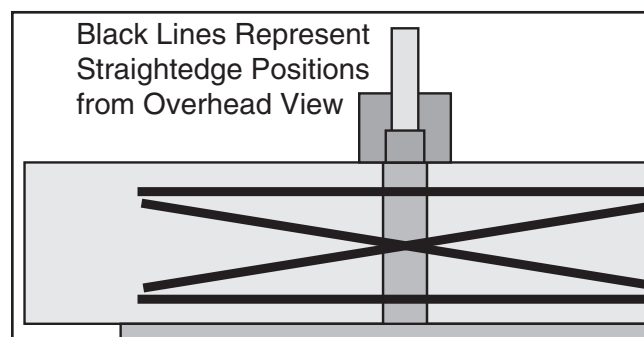

Figure 51. Straightedge positions for checking infeed/outfeed table parallelism.
4. Place straightedge in the positions shown in **Figure 51**. In each position, straightedge should sit flat against both outfeed table and infeed table.